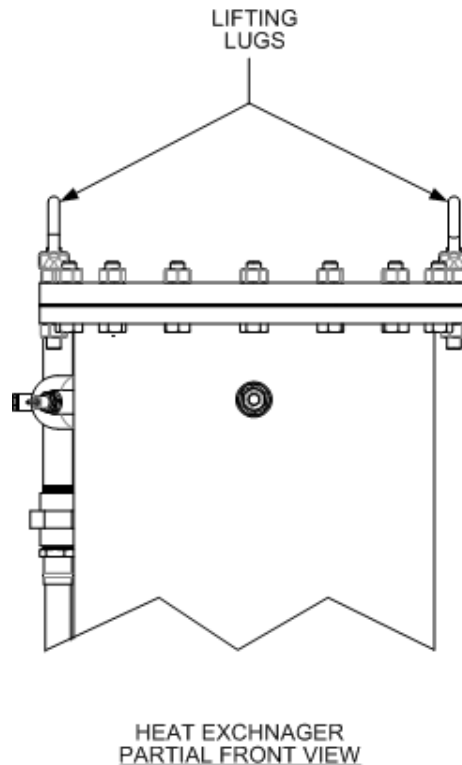

Figure 2-2
The unit must be installed on a 4 inch to 6 inch housekeeping pad to ensure proper condensate drainage. If anchoring the unit, refer to the dimensional drawings in Appendix F for anchor locations. Two lifting lugs are provided at the top of the heat exchanger as shown in Figure 2-2. **USE THESE TWO LUGS TO LIFT AND MOVE THE UNIT.** Remove the top panel from the unit to provide access to the lifting lugs. Remove the four (4) lag screws securing the unit to the shipping skid. Lift the unit off the shipping skid and position it on the 4 inch to 6 inch housekeeping concrete pad (required) in the desired location.